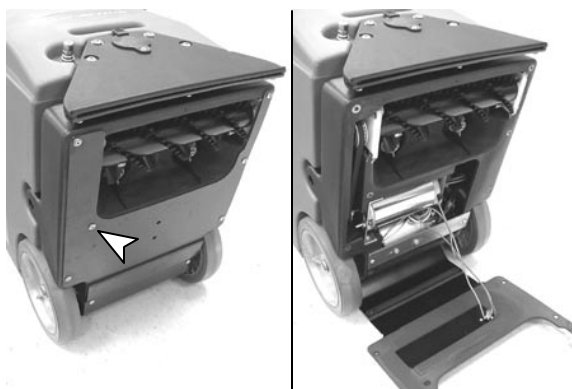

FIG. 1
1. Check to be sure recovery tank is empty, then tip machine back. Remove (8) base plate mounting screws, then lower the base plate (Figure 1).